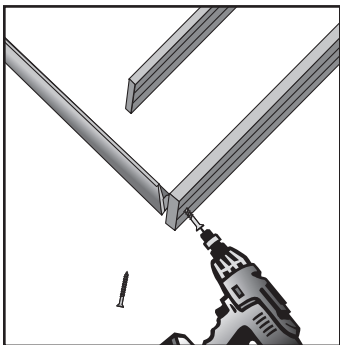

Fig. 13
4. Attach and fasten jamb legs to sill using 1½" screws into pre-drilled holes on outside jamb (**Fig. 13**).